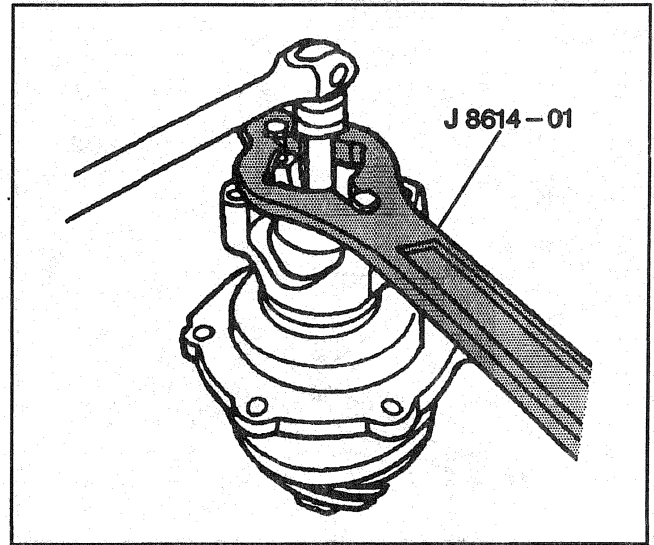

Figure 10—Installing the Pinion Nut
Tighten (Figure 10)
- Remove J 8614-01. Using an inch-pound torque wrench, check the pinion preload by rotating the pinion with the wrench. Preload should be at or below 1.69 to 2.60 N.m (15 to 23 lb in) for new bearings, or 0.56 to 1.7 N.m (5-15 lb in) for used bearings (Figure 10).